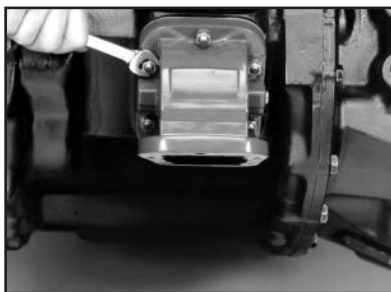

Figure 9
9. Secure the Adapter to the transmission. Use Self Locking nuts provided with the Adapter (**Fig. 9**). Torque all flange nuts to their proper specifications.